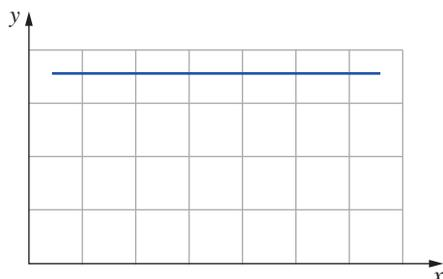

FIGURE 1.4.7 When two variables show no relationship, there is no trend in the graph.
- When there is no relationship between two variables, one variable will not change even if the other changes. A graph in which there is no relationship can be seen in Figure 1.4.7.